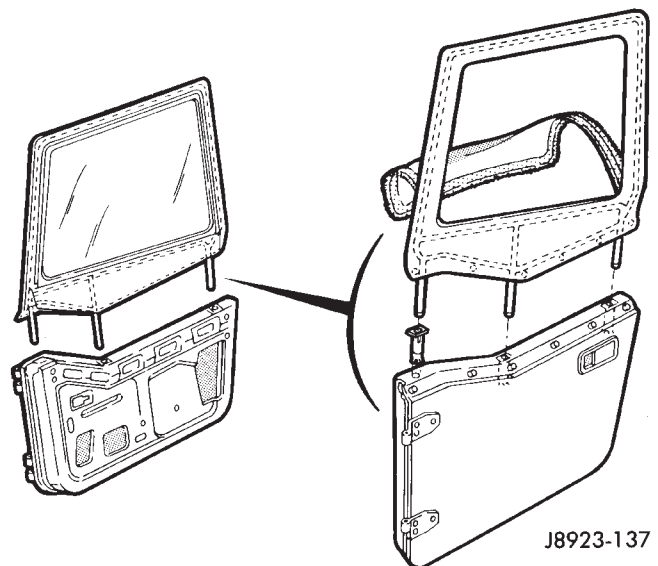

Fig. 3 Window Removal/Installation
- (4) Remove the window from the door by detaching the soft top-to-door snap fasteners and pulling the window up and out of the door (Fig. 3).